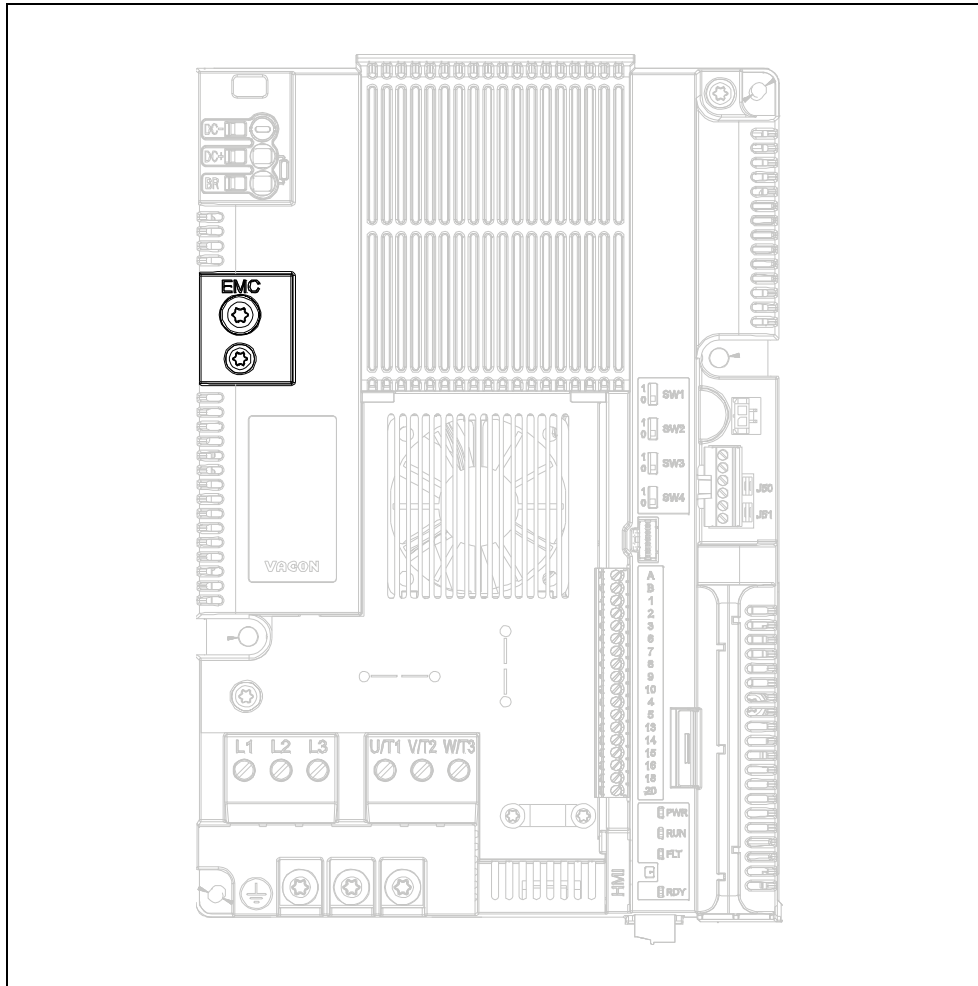

Figure 38. Changing the EMC class in the MS3.
- 1 Remove the EMC screw as shown in the Figure 38.